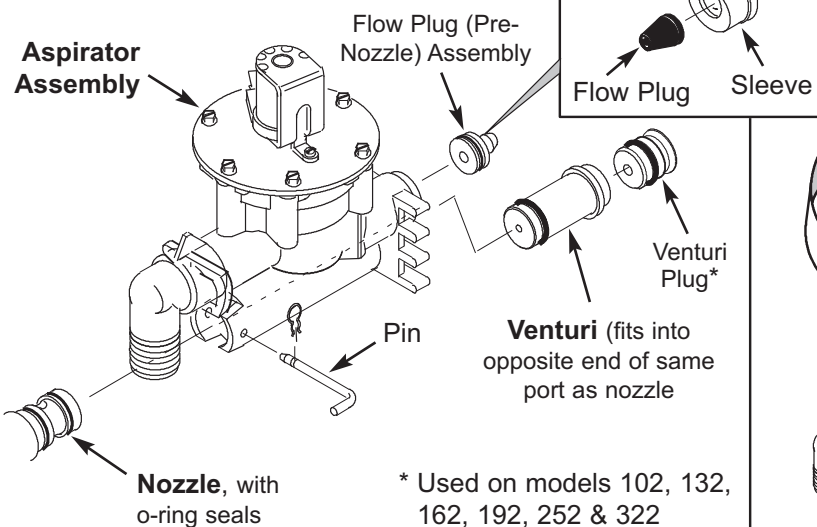

FIG. 4
When installing a softening system on low or high water pressures, and all downflow regeneration applications (specified when sizing and ordering) different nozzle / venturi / pre-nozzle flow plug combinations are needed. The parts required to control brine and rinse rates for your particular application are included in a separate parts bag so you can convert the aspirator (Figure 4).
16. Softeners only: The aspirator assembly has all of the required components to control brine and rinse rates for upflow regeneration applications at medium water pressures (shaded rows in following chart). If these conditions apply to this installation, do step a below. Refer to Figures 4 and 5, page 9.
Notes (see Figure 4): To remove the nozzle and/or venturi, use a common screwdriver in the pry slots provided. Be sure to face the small end of the pre-nozzle flow plug toward the 2" valve. Be sure to transfer the venturi plug, used on specified models.